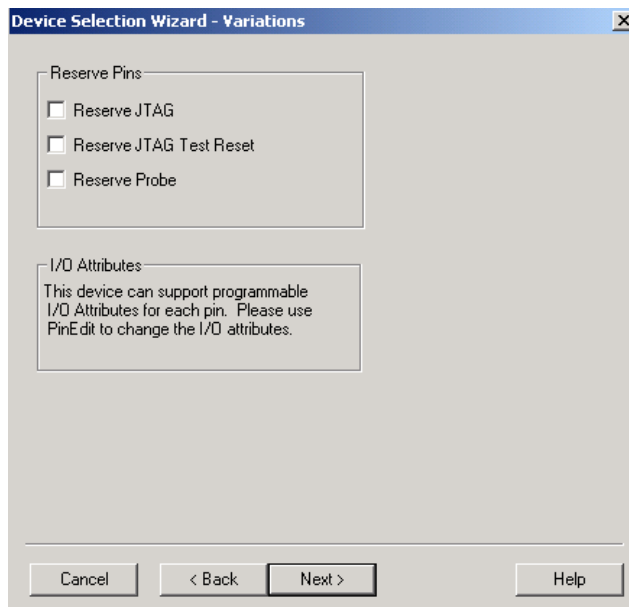

Figure 2-18. Device Selection Wizard, Device Variations (Screen Varies Depending Upon Device)
4. **Click *Next*.** The Device Selection Wizard prompts you to set Variations, as shown in Figure 2-18.